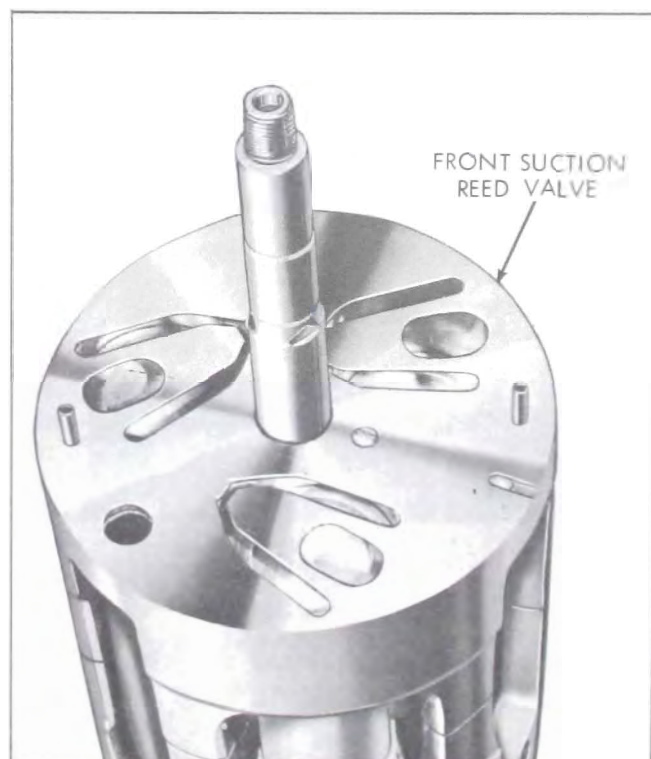

Figure 11-84—Front Suction Reed Valve Installed
2. Assemble suction reed valve to front end of cylinder. Align dowel pin holes, suction ports and oil return slot. See Figure 11-84.